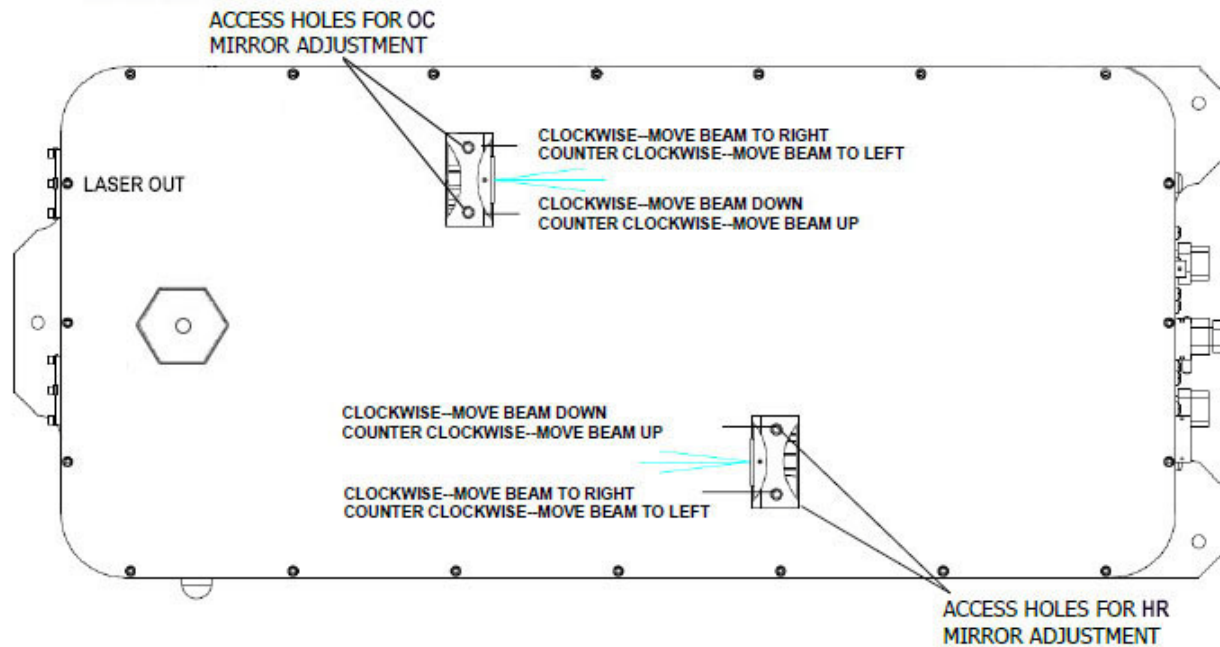

Figure 5-5 Accessible Holes for HR and OC Mirror Adjustment
- a. Locate the access holes for high-reflection (HR) and Output Coupler mirrors (OC). Notice the positions of HR and OC mirrors with respect to the direction of the laser output in Figure 5-5
- d. The screws for the adjustments of the vertical tilt angle and the horizontal tilt angle are illustrated in Figure 5-5.